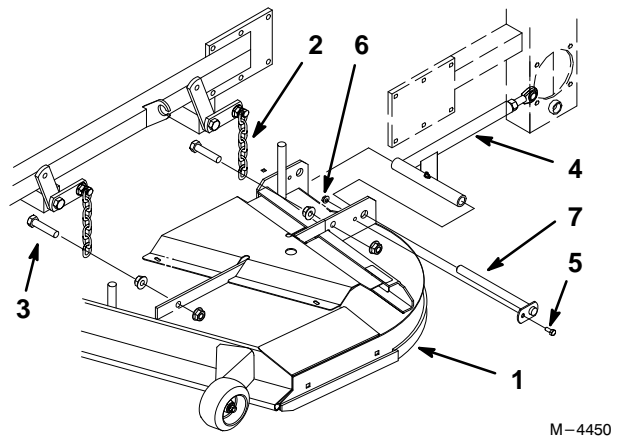

Figure 2
2. Remove the four bolts at the bottom of chains that attached to deck (Fig. 2).
3. Remove the nuts and bolts holding pins in the push arm (Fig. 2).
4. Remove pins (Fig. 2).
5. Raise height of cut lever and slide deck out (Fig. 2).